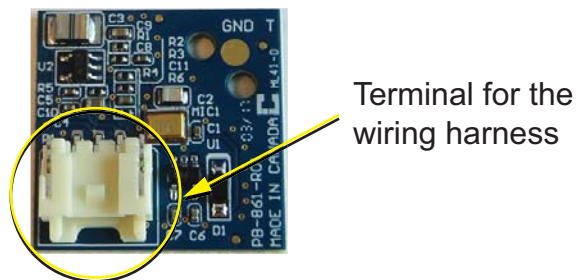

Figure 3 Proper alignment of the of the MD-1244 board
5. Align the MD-1244 so that the terminal for the wiring harness is on the bottom (see Figure 3).